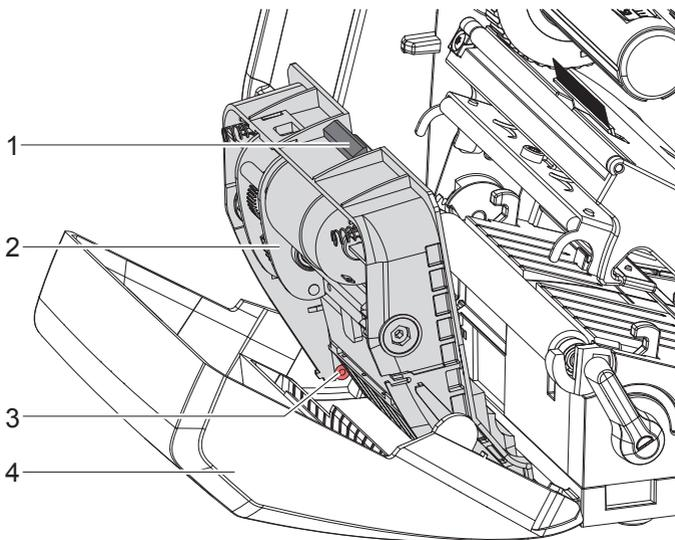

Figure 4 Dismount the perforator
- ▶ Turn the shaft (6) clockwise using a torx wrench TX10 until the gear racks (7) cannot engage anymore.
- ▶ Pull the upper blade (9) out of the guides (8).
- ▶ Take out the lower blade (10).
- ▶ Push the lower blade down into the guides (11).
- ▶ If necessary, put the springs (12) back into the spring retainers (13).
- ▶ To re-mount the upper blade push the lower blade down on the cover and push the upper blade into the guide until the gear racks (7) can engage with the gear wheels (5).
- ▶ Turn the shaft (6) counterclockwise using a torx wrench TX10 until the blade reaches the upper limit.
5. Fit the blade unit (3) according to Fig. 4 into the axes (2) and fold it towards the cover (4) until it snaps in.